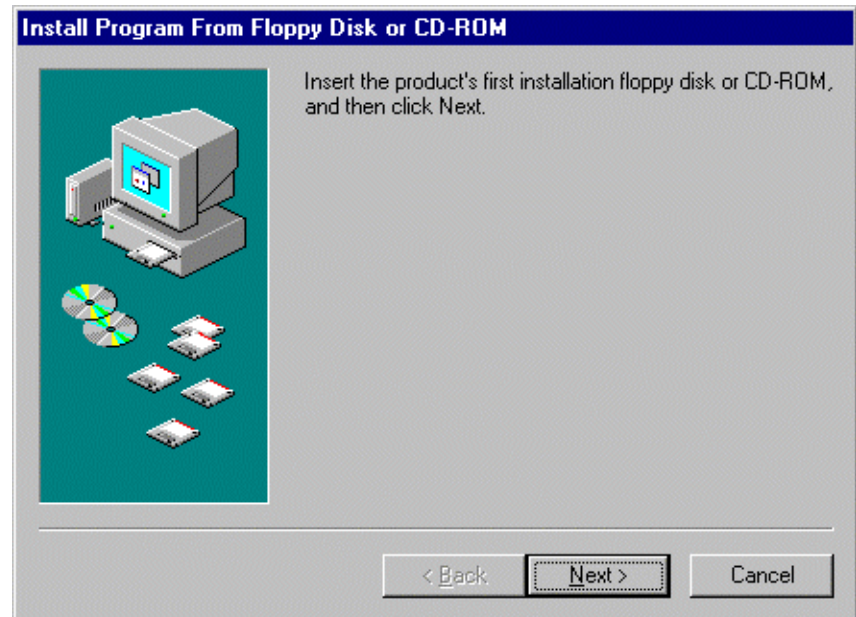

Fig. 1-3
- (3) Then, when the dialog box shown in Fig. 1-3 appears, push in the first one of the attached system disks and click **Next**.